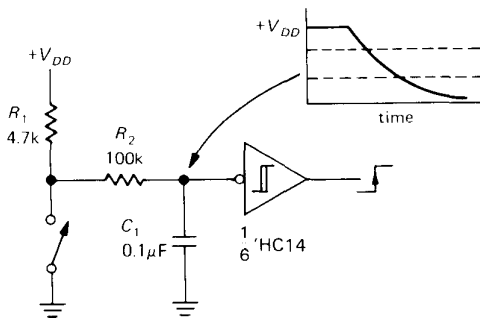

Figure 9.9. Switch debouncer: RC plus Schmitt trigger.
The TTL input threshold is typically around +1.3 volts, although the specifications only guarantee that it is between +0.8 and +2.0 volts. TTL gates with Schmitt-trigger inputs are available ('13, '14, '132), with ± 0.4 volt hysteresis; they are indicated by a hysteresis symbol within the gate outline (e.g., Fig. 9.9). V_{supply} (usually called V_{CC}) is +5.0 volts $\pm 5\%$.
3. Use an *RC* slowdown network to drive a CMOS Schmitt trigger (Fig. 9.9). The low-pass filter R_2C_1 smooths the bouncy waveform so that the Schmitt-trigger gate